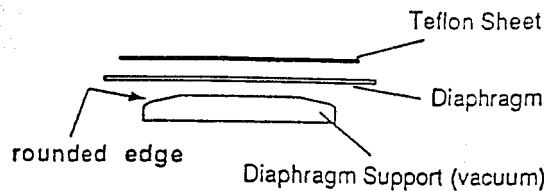

Figure 6-2-3-1 Correct Direction of Diaphragm Support (L)
- 2) DO NOT place the Diaphragm Support (L) upside down.
The rounded edge of the Diaphragm Support (L) must face the diaphragm as shown in Figure 6-2-3-1.